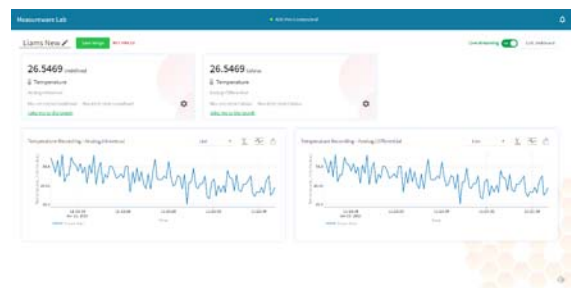

Figure 10. Data Acquisition
5. The sensor measurement is streamed to the measurement windows (see Figure 10).